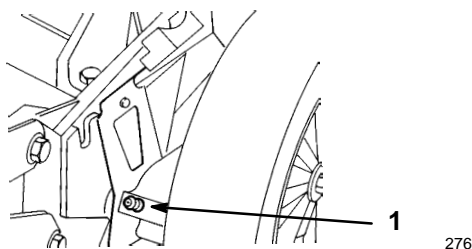

Figure 22
1. Wipe the grease fittings on the rear height-of-cut adjusters (Fig. 22) with a clean rag.